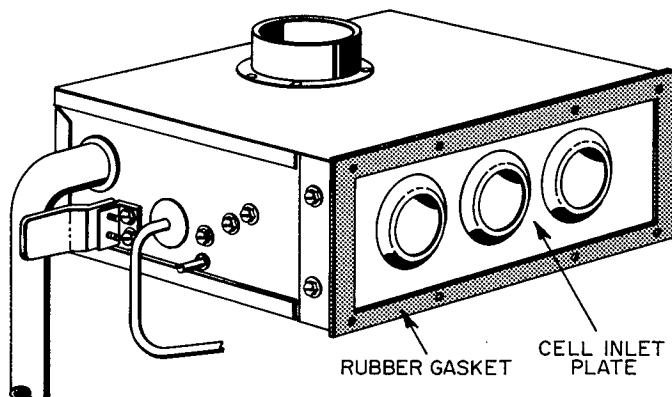

Fig. 11—Burner Enclosure
15. Check condition of gasket on cell inlet panel of burner enclosure. Replace gasket if necessary. See Fig. 11.